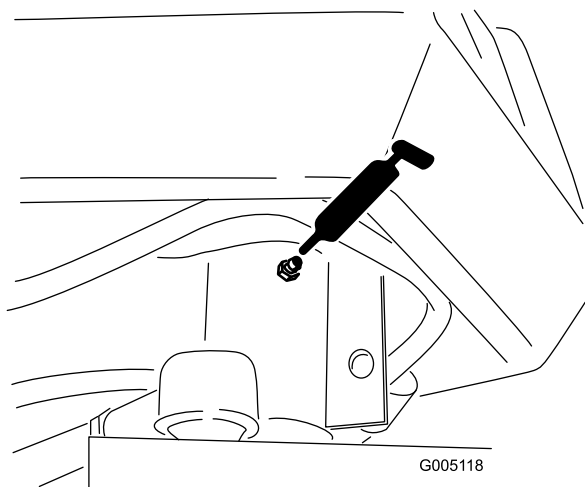

Figure 25
- Steering fork shaft (1) (Figure 25)